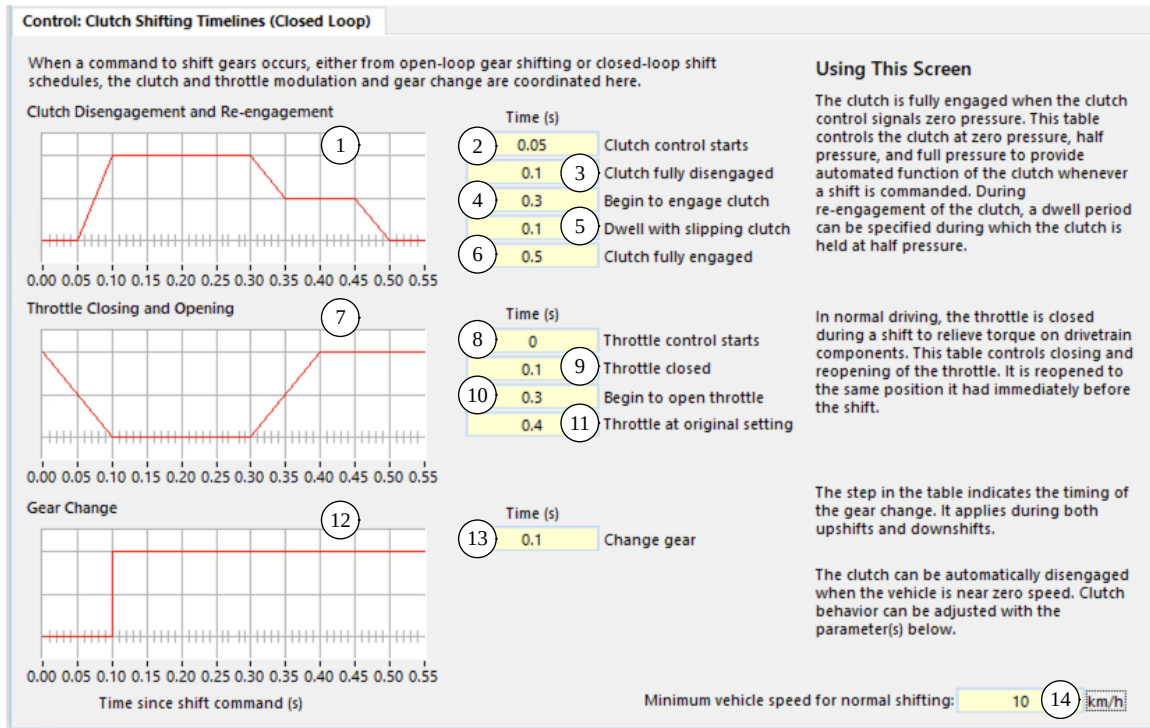
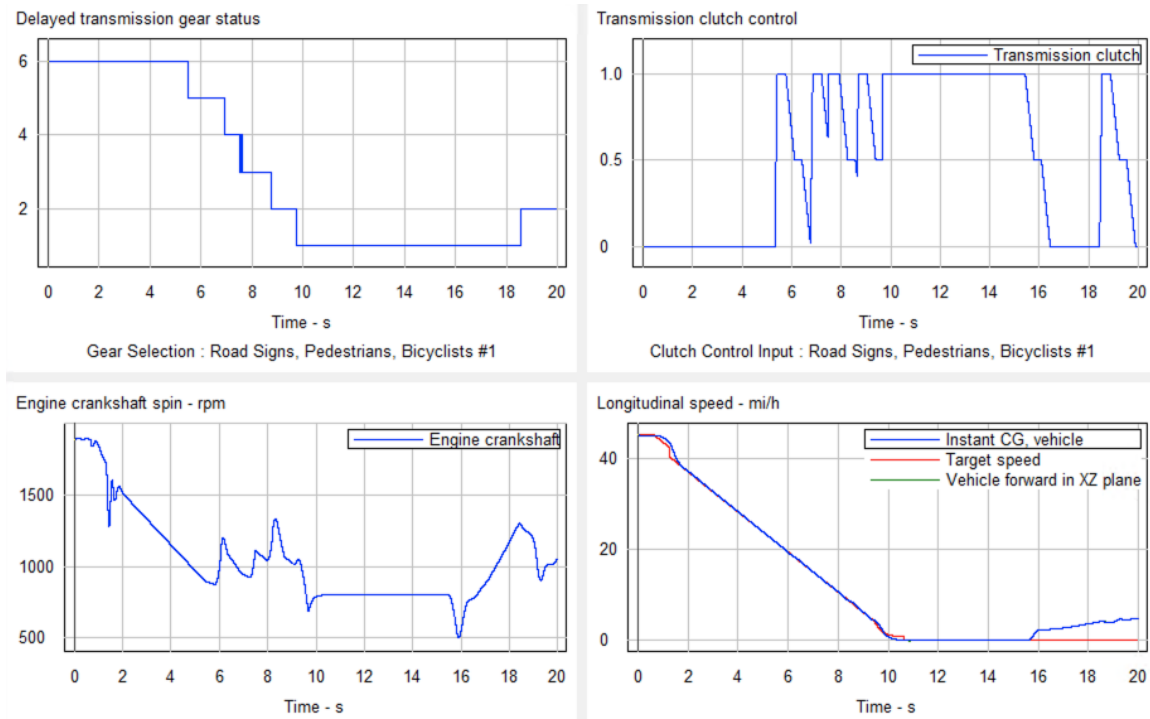

Figure 56. Screen with closed-loop clutch shifting timelines.
Figure 58. Clutch and gear time histories for a vehicle braking situation.
2. A standard sequence can be applied whenever a shifting of the transmission gear occurs. The sequence is defined with parameters that are set from the **Clutch: Clutch Shifting Timelines (Closed Loop)** screen (Figure 56).
The clutch control mode is selected by linking to a control screen, and the information is passed to the math models with the keyword `OPT_CLUTCH_MODE` with a value of 0 for open loop or a value of 1 for the standard built-in sequence. (The closed-loop screen shown in Figure 56 always sets `OPT_CLUTCH_MODE = 1`.)
The timelines shown in Figure 56 (page 69) are applied as shown for upshift or downshift gear changes when the gear changes are separated in time by more than the time needed to perform a change. There are at least three conditions where the timelines are partially used.
Sometimes a simulation requires rapid gear changes, in which the time between shifts is shorter than the time specified for a full shift. For example, Figure 58 shows time histories for a vehicle with manual transmission coming to a stop at an intersection using the speed controller (lower-right plots). The vehicle is stopped at about 10s into the run. The upper-left plot shows the gear being changed sequentially from 6 to 1. The upper-right plot shows the clutch control during the shift changes and stopping of the vehicle.
The first shift (gear 6 to 5) occurs at about 5.5s. Note the change in the clutch control, which shows the same characteristic shape as seen on the Browser screen (Figure 56). The next four shifts occur rapidly (between 7s and 9.6s), such that there is not time for the clutch control to follow the full timeline for each shift. The clutch control is partly disengaged from 7s to 16s. As shown in the plot, the clutch control for each new shift begins immediately without fully re-engaging the clutch. For example, at 7.5s, the shift from gear 4 to 3 is triggered. The clutch has not fully re-engaged from the previous shift (5 to 4), so it increases immediately starting from the current value.
The normal behavior of the closed-loop clutch controller is overridden at low speeds to avoid stalling the engine. When the forward vehicle speed drops below the specified limit  $V_{LOW\_CLUTCH}$  (15), Figure 56, page 69) and the lagged throttle is less than 0.01, the clutch will dis-engage if (1) the brakes are applied (indicating an intention to stop), or (2) a low engine RPM limit  $AV\_ENG\_LOW\_CLUTCH$  is reached. In the example plots in Figure 58, the clutch is fully disengaged at 9.5s and does not begin to re-engage until 15.5s.